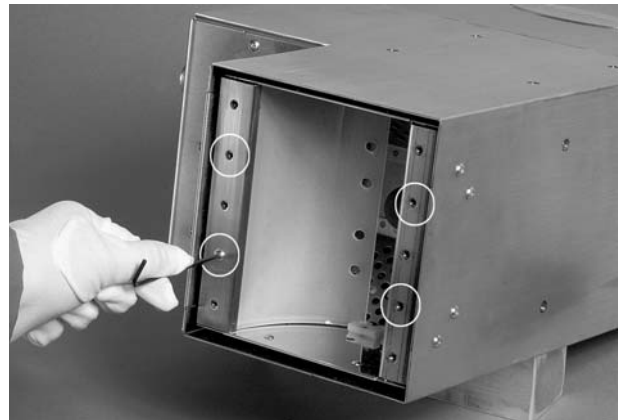

Figure 4-3 Removing the Screws
3. See Figure 4-3. Using a 2.5-mm hex wrench or Phillips screw driver, remove the four screws and the two retaining brackets from the lamp head base.